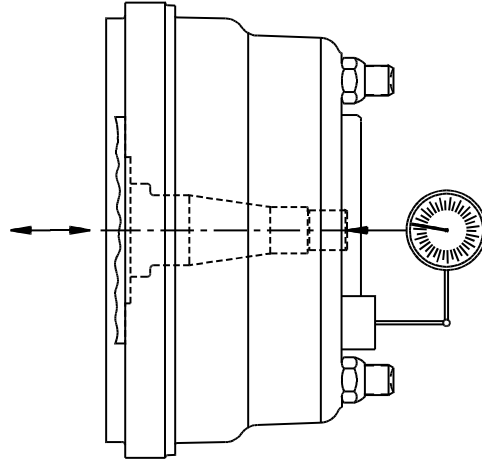

Figure 9 - Wheel End Play Measurement
5. Place the tip of the dial indicator on the center of the steering knuckle spindle. Set the dial indicator on zero (**Figure 9**).